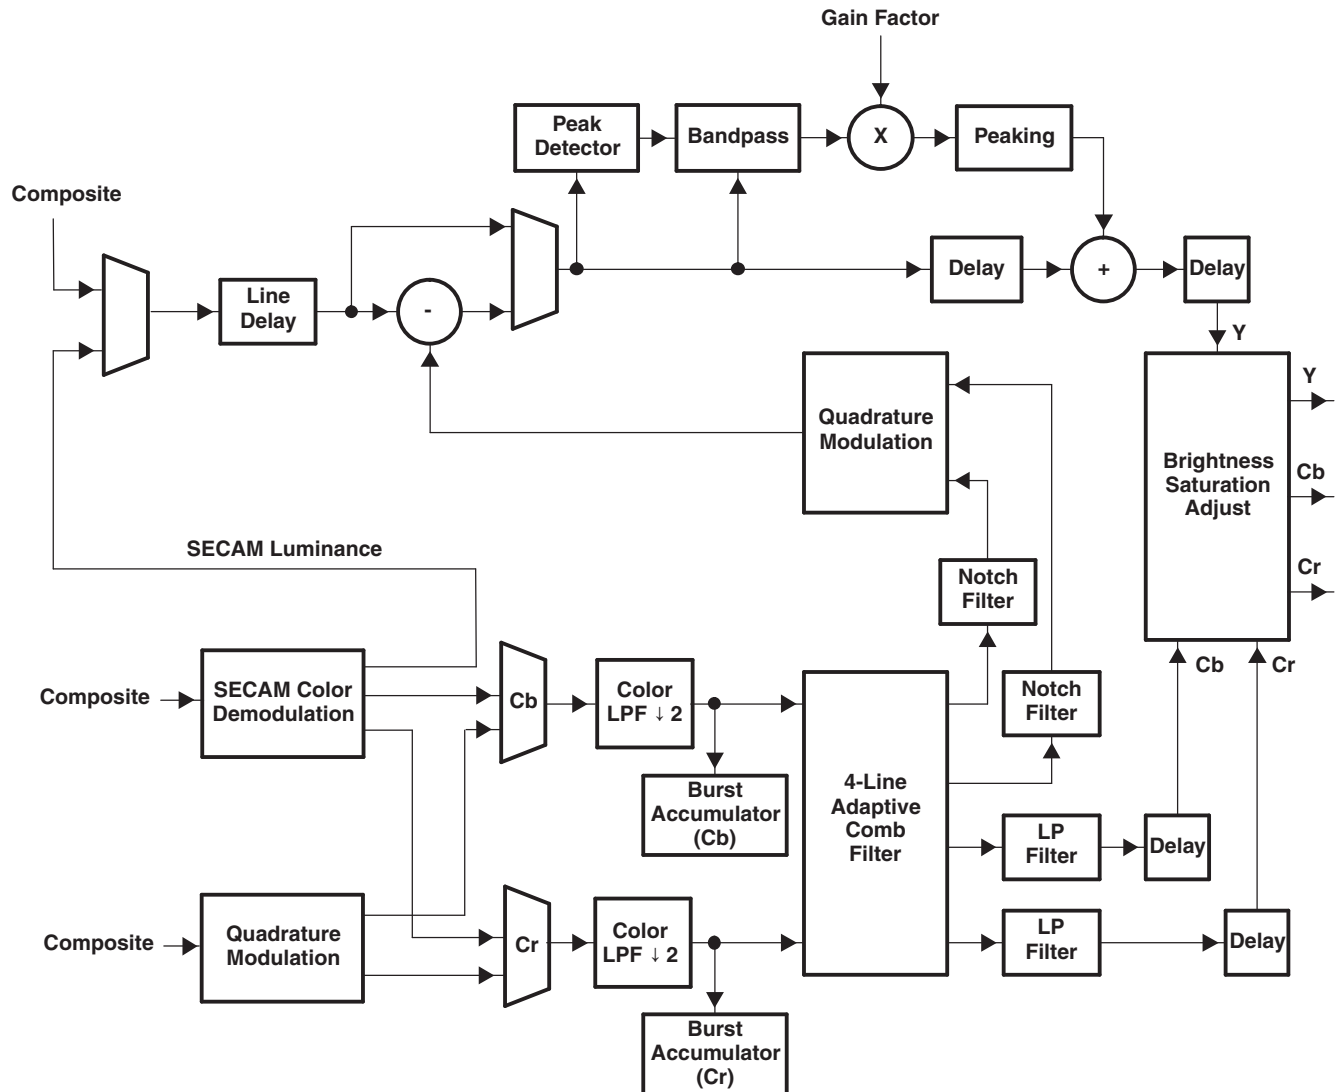

Figure 3-1. Composite Processing Block Diagram (Comb/Trap Filter Bypassed for SECAM)
The composite processing block processes NTSC/PAL/SECAM signals into the YCbCr color space. Figure 3-1 shows the basic architecture of this processing block.
Figure 3-1 shows the luminance/chrominance (Y/C) separation process in the TVP5151 decoder. The composite video is multiplied by subcarrier signals in the quadrature modulator to generate the color difference signals Cb and Cr. Cb and Cr are then low pass (LP) filtered to achieve the desired bandwidth and to reduce crosstalk.